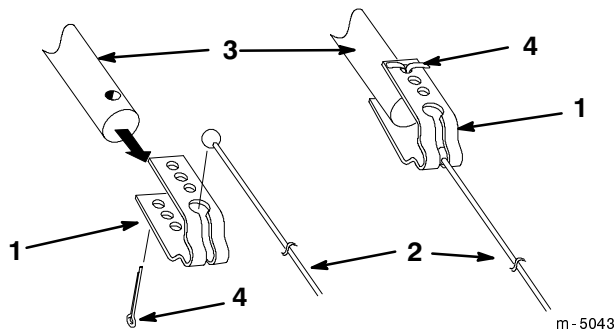

Figure 9
19. Insert the balled end of the cable into the cable bracket (Fig. 9).
20. Attach the cable bracket to the angle pin at the blade assembly (Fig. 9) with a 1-1/4 in. (32 mm) cotter pin.